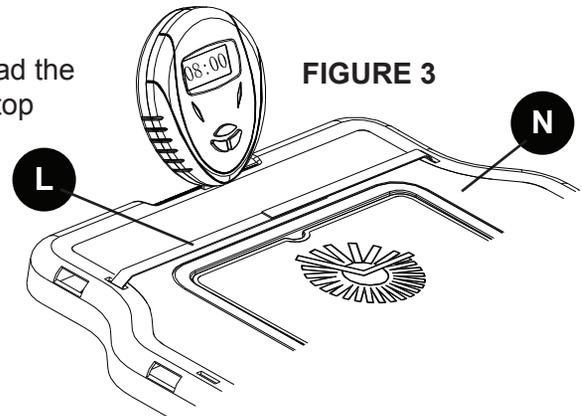

FIGURE 3
The **FitDesk®** also comes with a Desk Strap (L) (3240). Thread the strap through the openings in the Desk (N) and around your laptop or device. **Figure 3**